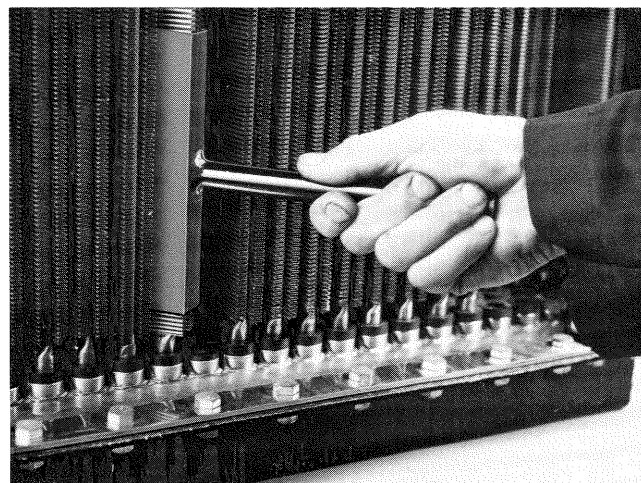

Fig. 1
To assist in the removal of MESABI tubes, if possible, heat the tubes and seals with hot water; then, loosen the tube by using Breaker Tool as shown in **Fig. 1**. Preferably, the Breaker Tool should be placed at top and bottom, not at middle, when freeing tube from seal. (Contact L&M Radiator for other methods used to break the tubes loose from the seals.)
- The breaker tool can be used to loosen the tubes (see Figure 1, page 6). However, care should be taken not to damage the tube or the ITS support with excessive twisting. NOTE: Position the tool close to the top or bottom of the tube.